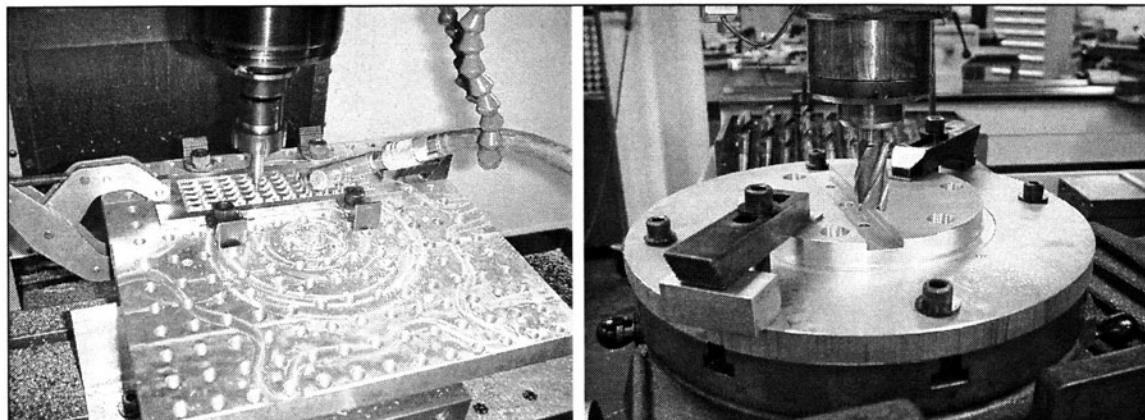

FIGURE 3-11 Perishable subplates are handy for holding parts and machining them beyond the bottom of the part for complete cleanup.
15. *Use subplates to allow for over cut. (See Fig. 3-11)*